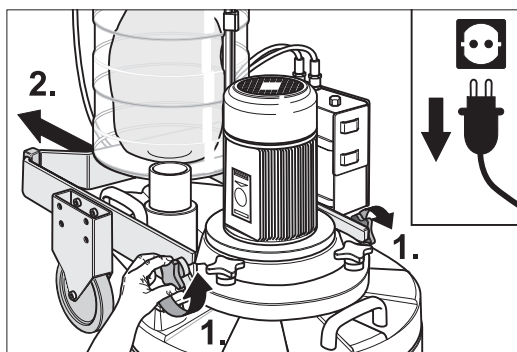

Fig. 20 The chassis can be moved backwards once the crossnut fasteners have been loosened.
- 6 Loosen the two lateral crossnut fasteners on the casing and roll the chassis backwards in an upright position (Fig. 20).